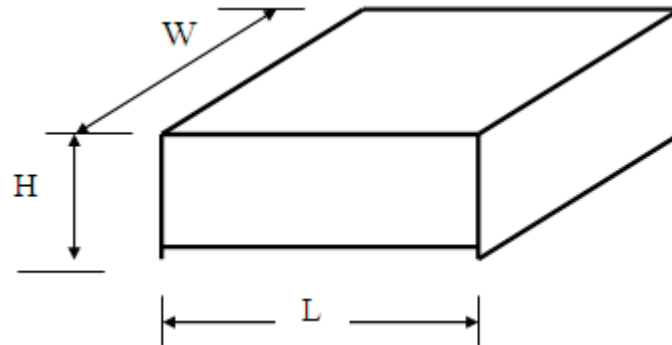

Figure 3–3 Packing Product Dimensions
The dimensions of the packing product are width (W), the height (H), and the length (L) as shown in Figure 3–33.
4. Adjust the infeed conveyor Height (see Figure 3–4): Rotate the conveyor adjusting wheel to adjust the height of the triangular plate. The correct position is about $1/2 H$ (Product Height) + 5~10mm.